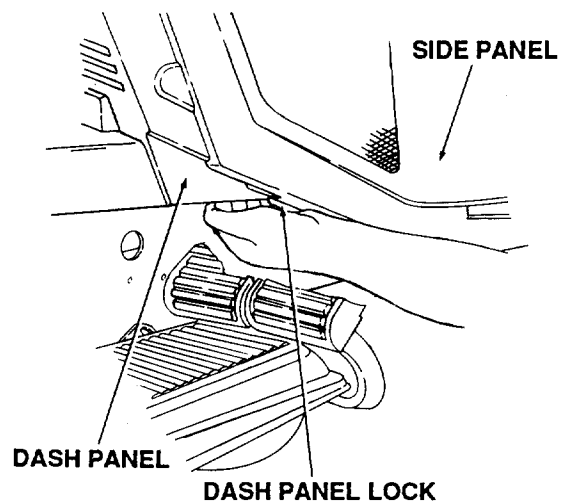

Figure 21
4. Gently pull tip of dash panel toward you and push in and engage dash panel lock. (See Figure 21.)